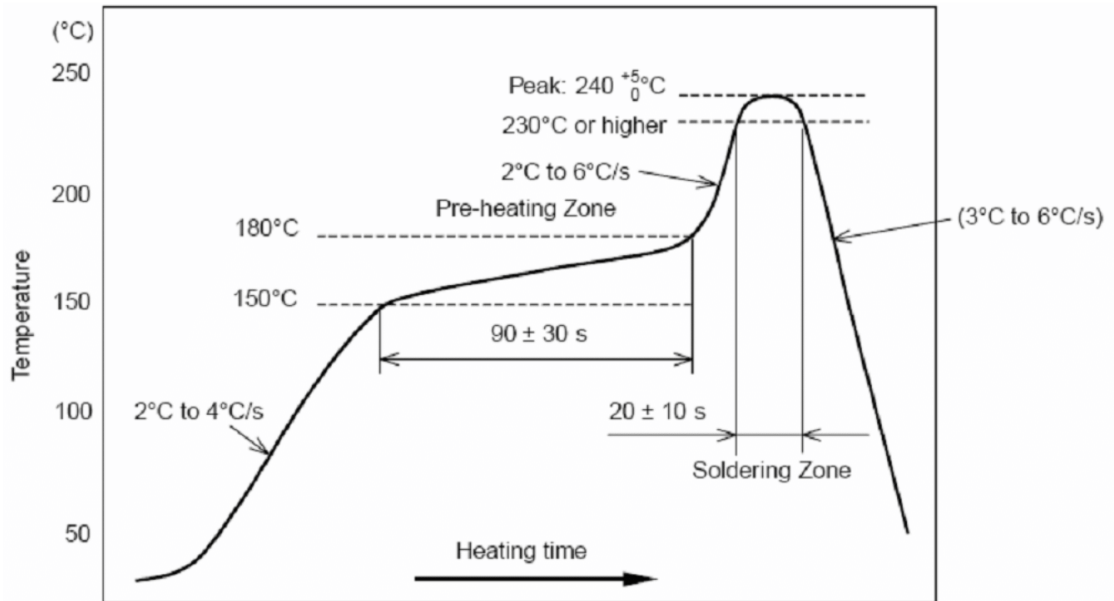

Figure 6-1. Temperature Profile for Evaluation of Solder Heat Resistance of a Component (at Solder Joint)
2. Temperature measurement: Thermocouple d=0.1mm to 0.2mm CA(K) or CC(T) at
4. Allowable reflow soldering times: 2 times based on the following reflow soldering profile (see Figure 6-1).
5. Temperature profile: Reflow soldering shall be done according to the following temperature profile (see Figure 6-1).